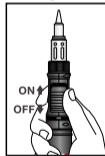

Fig.2b
2. As gas is flowing, slowly slide up the ON/OFF Ignition Switch toward the tip till you hear a click. (Fig. 2b)